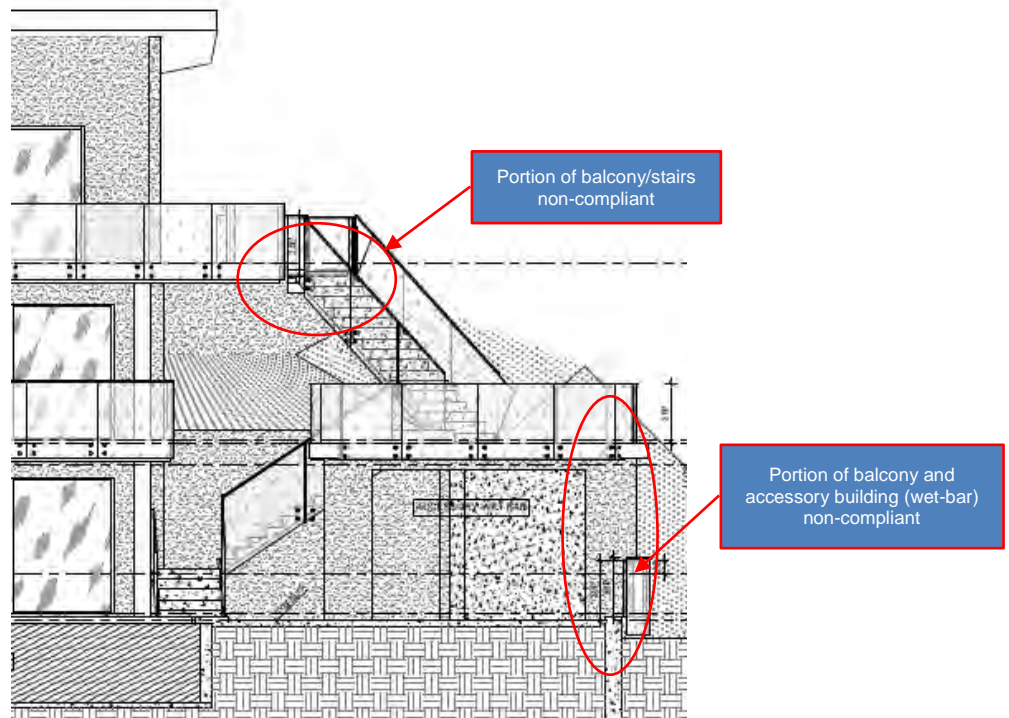

Figure 7 – Southern Balcony and Stairs
3. **Side Yard Setback (Balcony & Stairs):** The side yard setback requirement in the RS10 zone is 10% of the lot width. Therefore, the minimum side yard setback for the subject site is 2.85 metres (9.35 ft.). Proposed Development Variance Permit 19-042 varies the side yard setback from 2.85 metres (9.35 ft.) to 1.88 metres (6.17 ft.) for the balcony and concrete stairs located on the south side of the site (Figure 7). Upon review, the concrete stairs form part of the balcony on the south side of the building and therefore form part of the building (rather than just a landscaped staircase which would not be included within the setback measurement). As the setback variance is minor and only pertains to a concrete staircase which follows grade (i.e. ground level), staff support the reduced side yard setback.